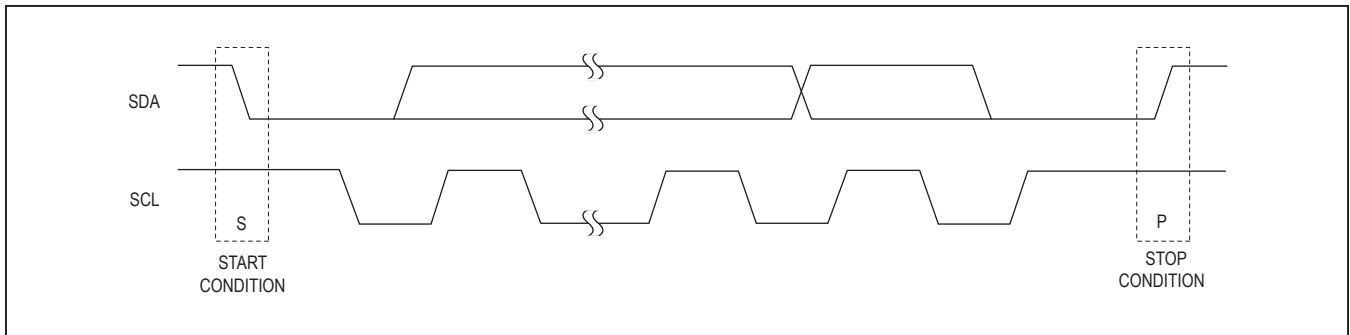

Figure 4. START and STOP Conditions
The IC operates as a slave device that sends and receives data through an I²C-compatible 2-wire interface. The interface uses a serial-data line (SDA) and a serial-clock line (SCL) to achieve bidirectional communication between master(s) and slave(s). A master (typically a microcontroller) initiates all data transfers to and from the IC and generates the SCL clock that synchronizes the data transfer. The SDA line operates as both an input and an open-drain output. A pullup resistor is required on SDA. The SCL line operates only as an input. A pullup resistor is required on SCL if there are multiple masters on the 2-wire interface, or if the master in a single-master system has an open-drain SCL output. Each transmission consists of a START (S) condition (Figure 4) sent by a master, followed by the MAX14646E 7-bit slave address plus R/\overline{W} bit, a register address byte, one or more data bytes, and finally a STOP (P) condition.
Both SCL and SDA remain high when the interface is not busy. A master signals the beginning of a transmission with a START condition by transitioning SDA from high to low while SCL is high (Figure 4.) When the master has finished communicating with the slave, it issues a STOP